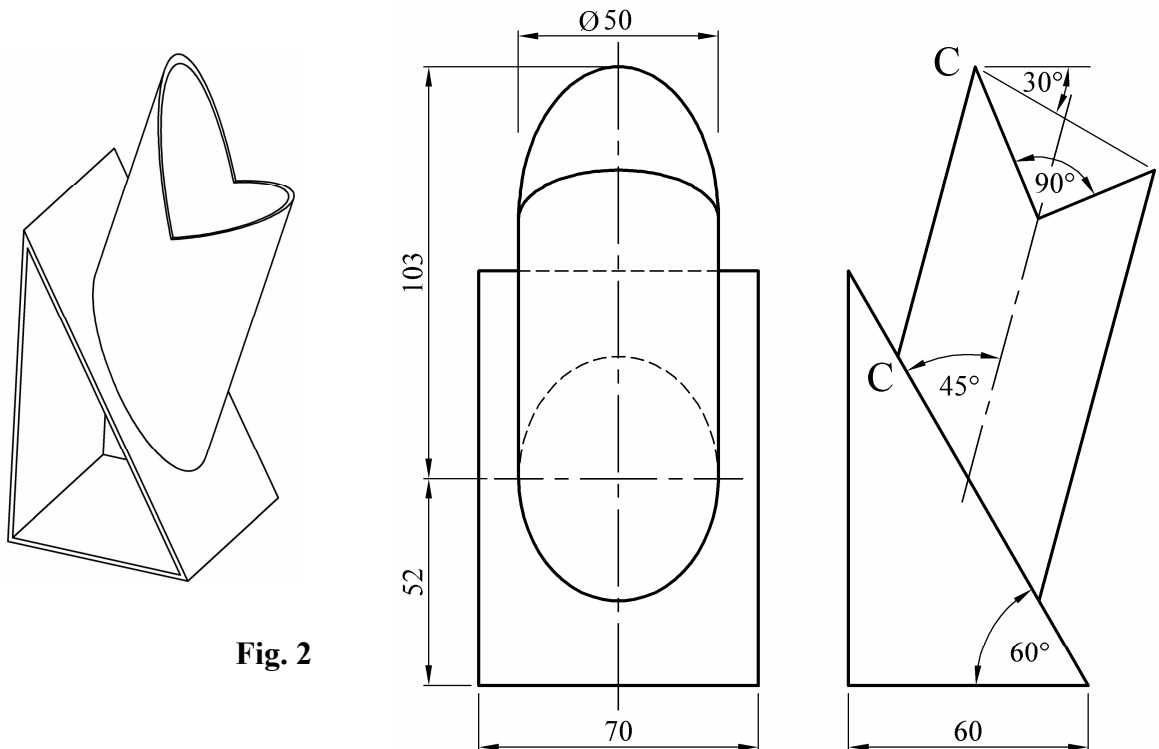

Fig. 2
2. Fig.2 shows the elevation and end elevation of a cylindrical pipe which is connected to a triangular duct. A pictorial view is also shown.